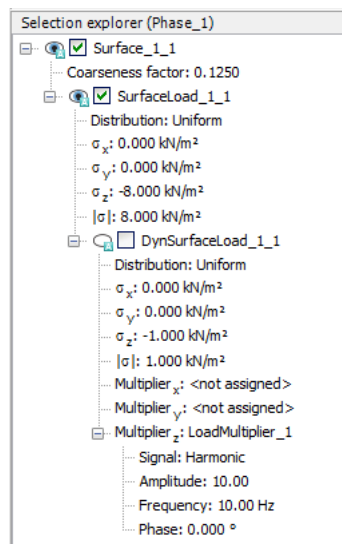

Figure 8.5 Applied load in the Phase_1
- In the *Staged construction* mode activate the static component of the surface load. Do not activate the dynamic load (Figure 8.5).